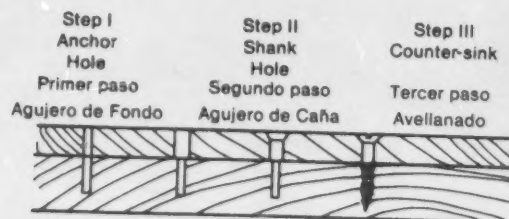

Figure 11-12 Drilling a hole for a flat-head screw
2. Drill an **anchor hole** smaller than the body of the screw (step one, Figure 11-12).
3. Drill a **shank hole** the same size as the shank of the screw (step two, Figure 11-12).
4. Use a **countersink** to drill a cone-shaped hole for the screw head to set into (step three, Figure 11-12).